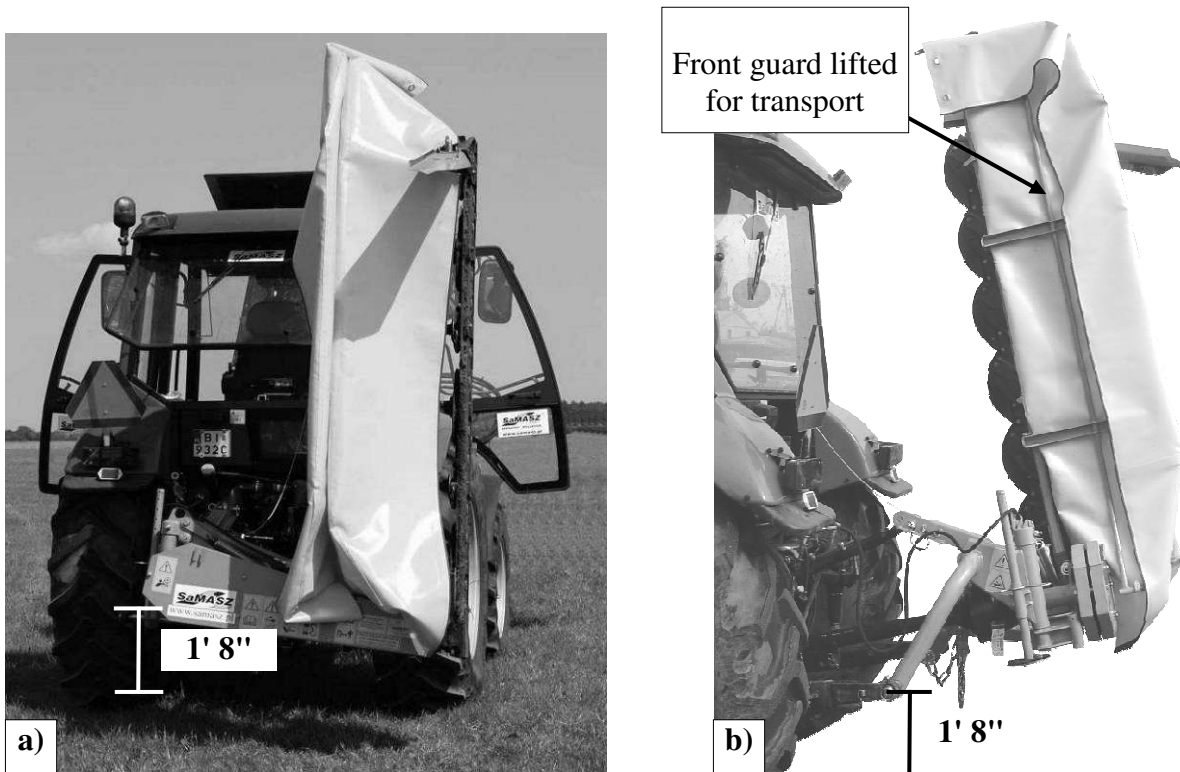

Fig. 13. Transport position
- ❑ lift the mower with tractor hydraulic lift until the lower lift pins of the mower 3-point linkage frame raise about 1' 8" above the ground (Fig. 13),
- ❑ lower the mower until the cutter bar is at least 1' 3¾" above the ground (**Fig. 13**),